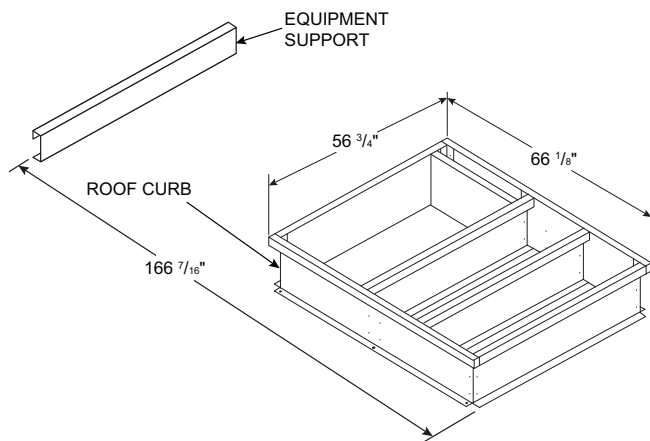

Fig. 3 — CRRFCURBXB3AA1 — Roof Curb with Equipment Support Example
- The second type of curb is the same as the first except it also includes an equipment support. The assembly of the curb itself will be the same as the first. The equipment support is shipped assembled. Figure 3 shows a typical curb with equipment support. The exact location of the support is critical and is noted in 62X Installation Instructions. The equipment support is known as a sleeper rail and will support the condensing section of the unit.